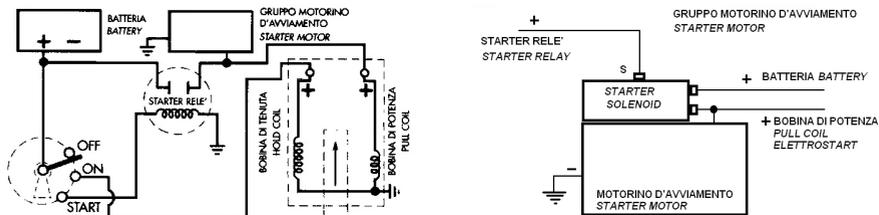

FIG.8
- The pull coil, connected to the motor starter, trips when the starter is actuated and turns off once starting has been completed (Fig.8).